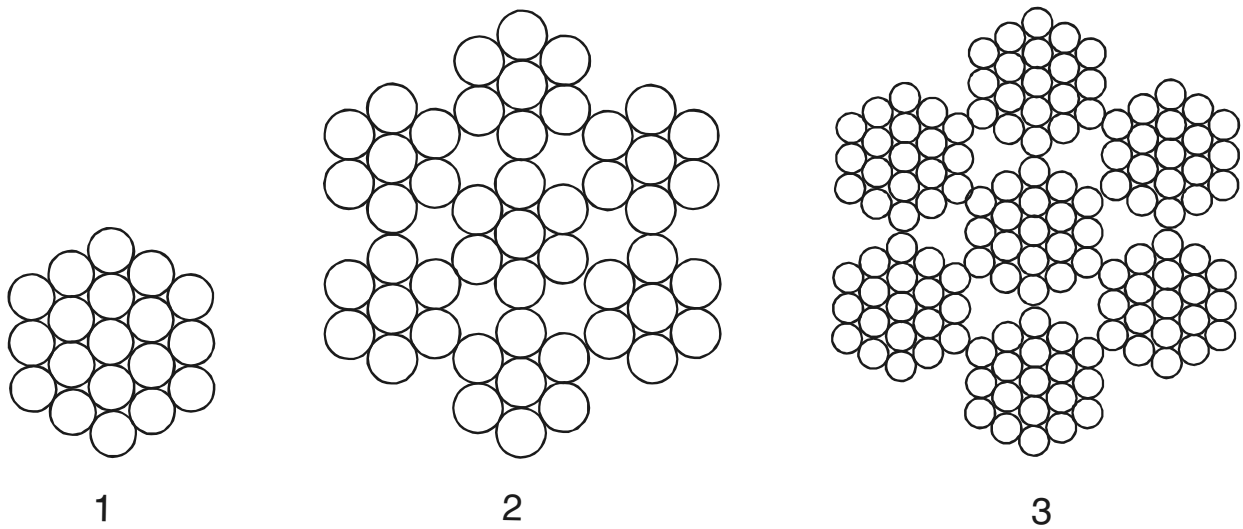

Figure 9.27.
80. (Refer to figure 9.27) Identify the cable that is used in primary control systems and in other places where operation over pulleys is frequent.